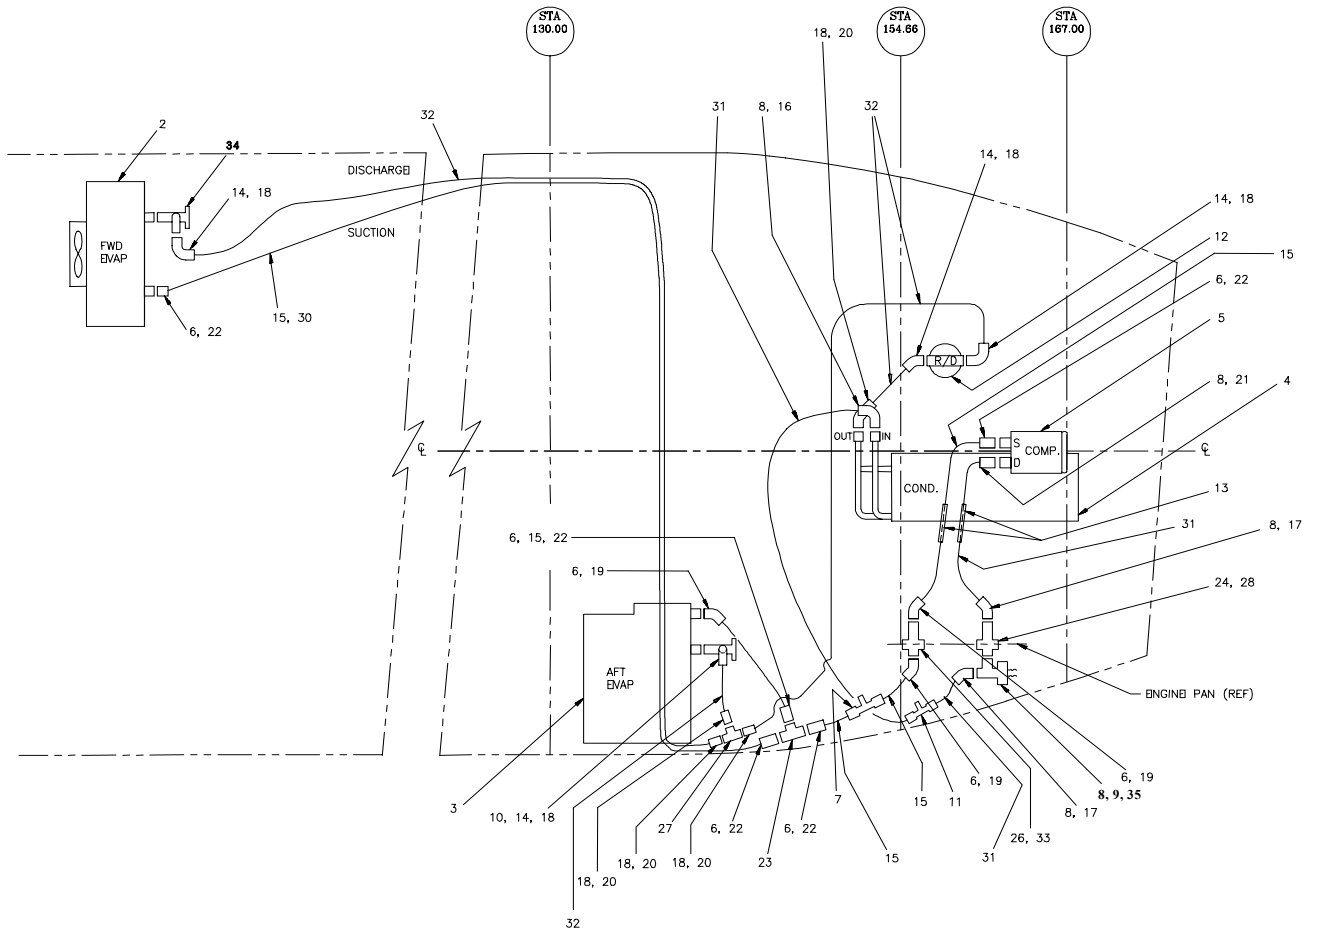

Figure 1
1. Place the appropriate o-ring (REF. IPL Fig. 1) over the tube “O” end of the fitting.
3. PLUMBING CHECK PROCEDURES (REF. IPL Fig. 1)